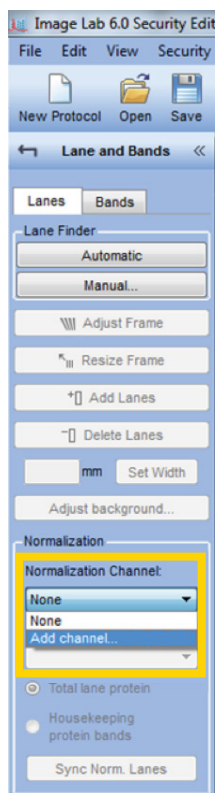

Fig. 2. Add normalization channel.
- Select **Add channel** in the Normalization Channel dropdown menu (Figure 2)